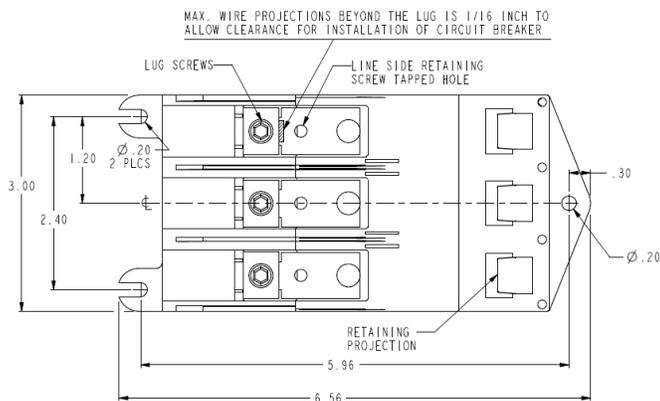
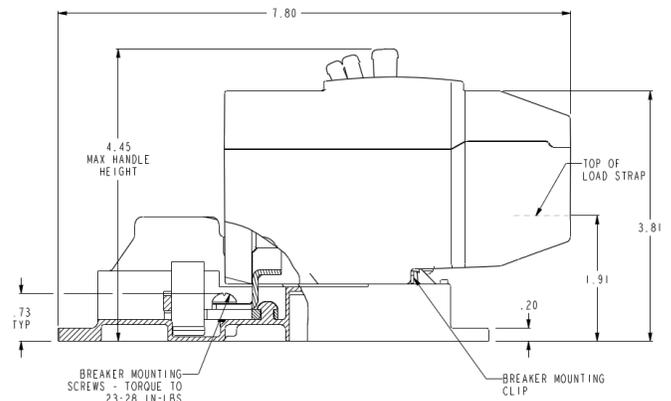

Figure 1.
Figure 2.
2. Install base mount using dimensions shown in Figure 1.
4. Install the breaker by positioning the breaker mounting clips (Figure 2) under the retaining projections (Figure 1) on the mounting base. Locate the breaker line side mounting screws in the tapped holes of the base terminal assembly.